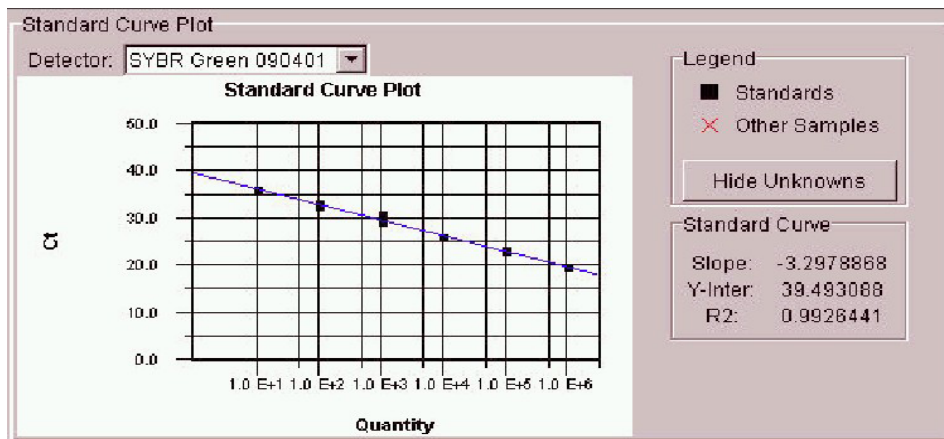

Figure 1 Standard Curve
2. A standard curve was generated by plotting the log₁₀ [target dilution] of Mu GAPDH control template on the X axis against the C_t value from serial dilutions of Mu GAPDH target DNA on the Y axis (Figure 1). Standard curve, linear equation, and correlation coefficient (R²) are automatically computed with the PRISM[®] software.